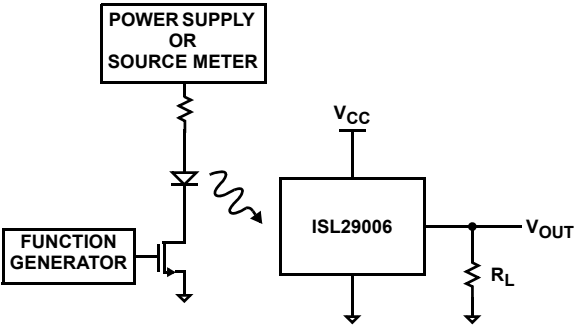

FIGURE 1. TEST CIRCUIT FOR RISE/FALL TIME MEASUREMENT
1. Switching time measurement is based on Figures 1 and 2.
For some applications, a load resistor is added between the output and the ground, as shown in Figure 1. The output voltage can be expressed in Equation 2: